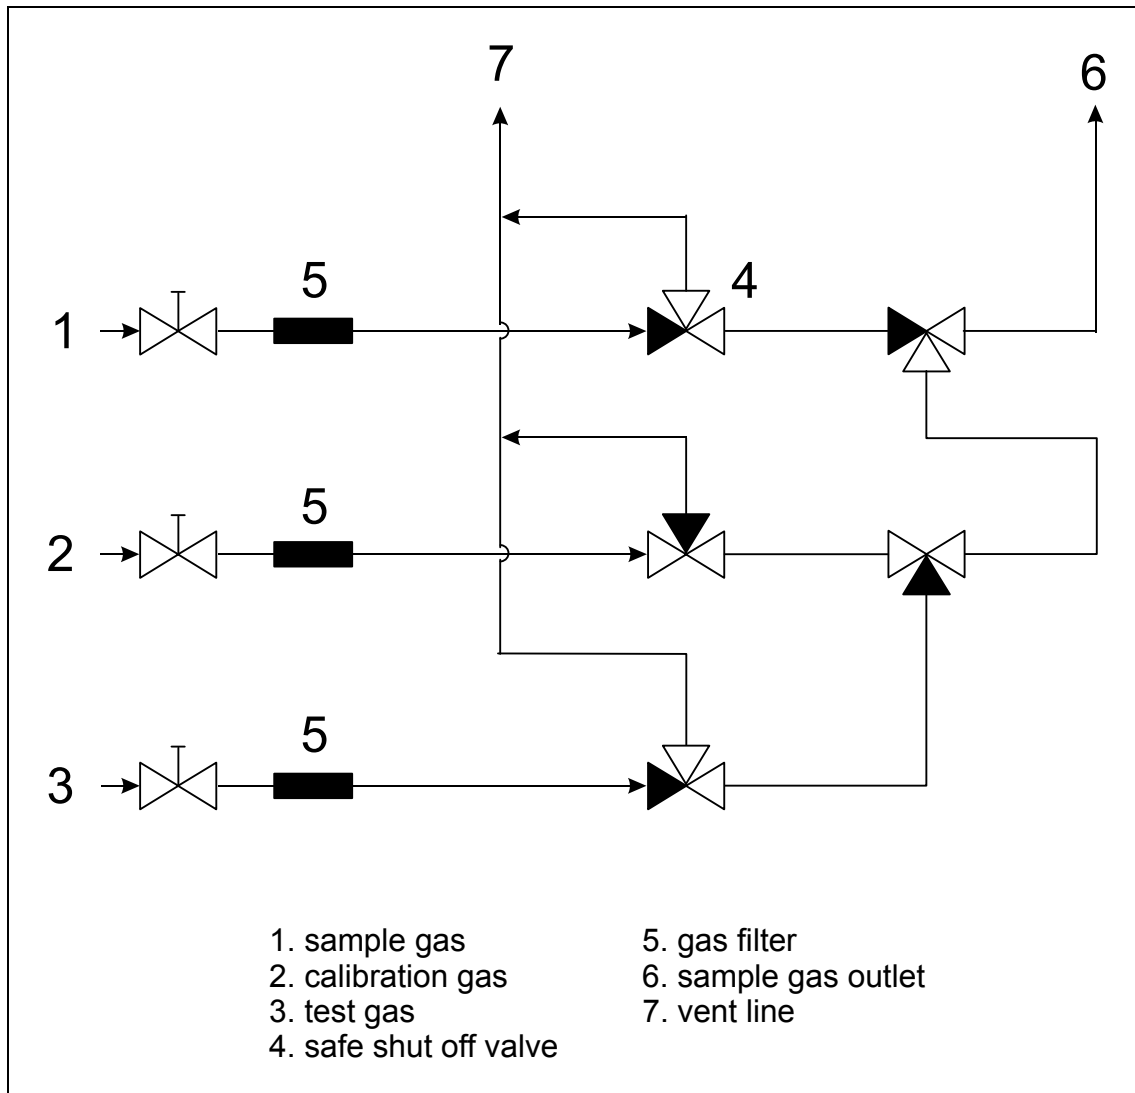

Figure 2.3
2.1 Gas distribution (Figure 2.3)
Figure 2.3 shows such a configuration with gas stream 2 being selected. It can be seen that the volumes between the valves of the unselected gas streams are open towards the atmosphere. Therefore, leakages occurring cannot contaminate the gas stream to be analyzed.